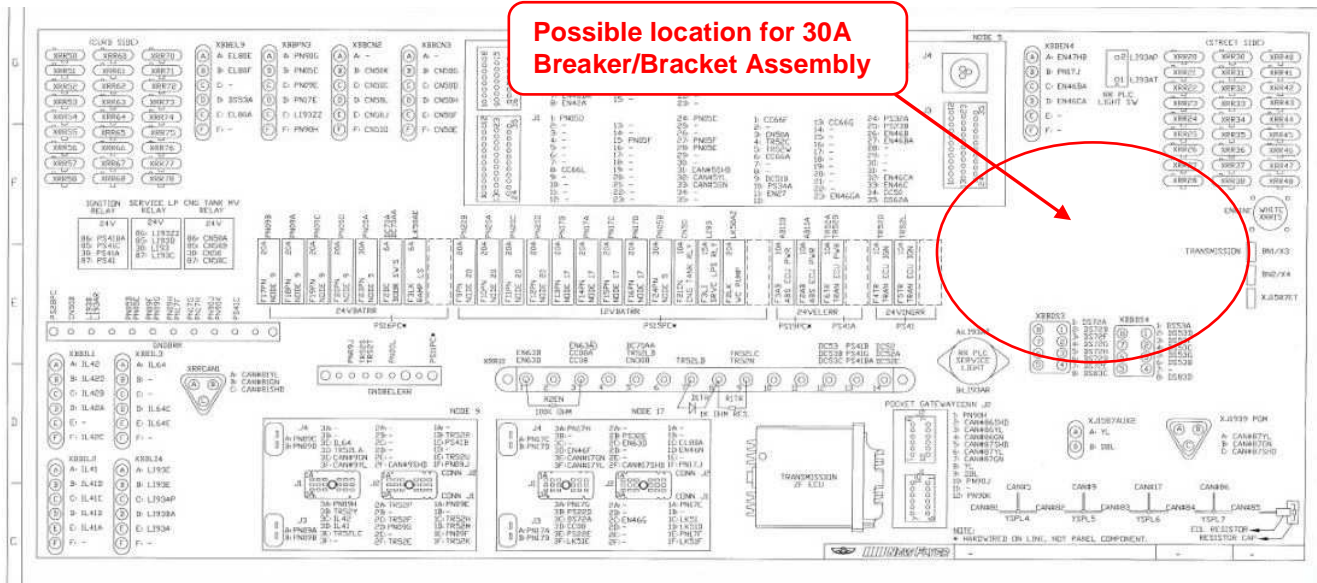

FIGURE 2. From SR1008, possible location of new 30A circuit Breaker.
3. Find a suitable location on the rear panel to mount breaker bracket, PN: 471028 see Figure 2.